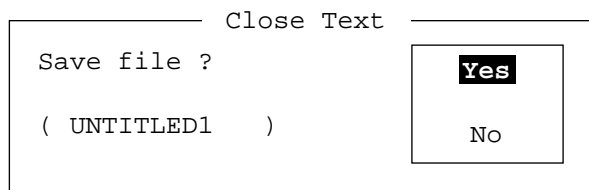

Figure 4-2 Close text screen
2. Press the [3] key. The screen should look something like Figure 4-2.